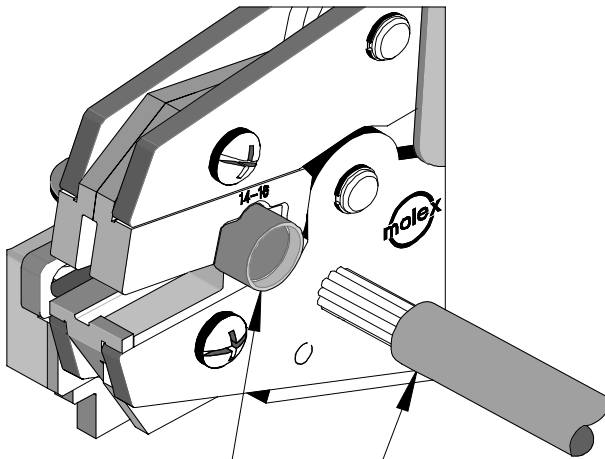

Figure 2 TERMINAL WIRE
2. Partially close the tool to hold the terminal in place (See Figure 2).
3. Insert the properly stripped wire into the terminal barrel (See Figure 2 and 3). The wires end should butt against the wire stop position of the locator. Cycle the tool.